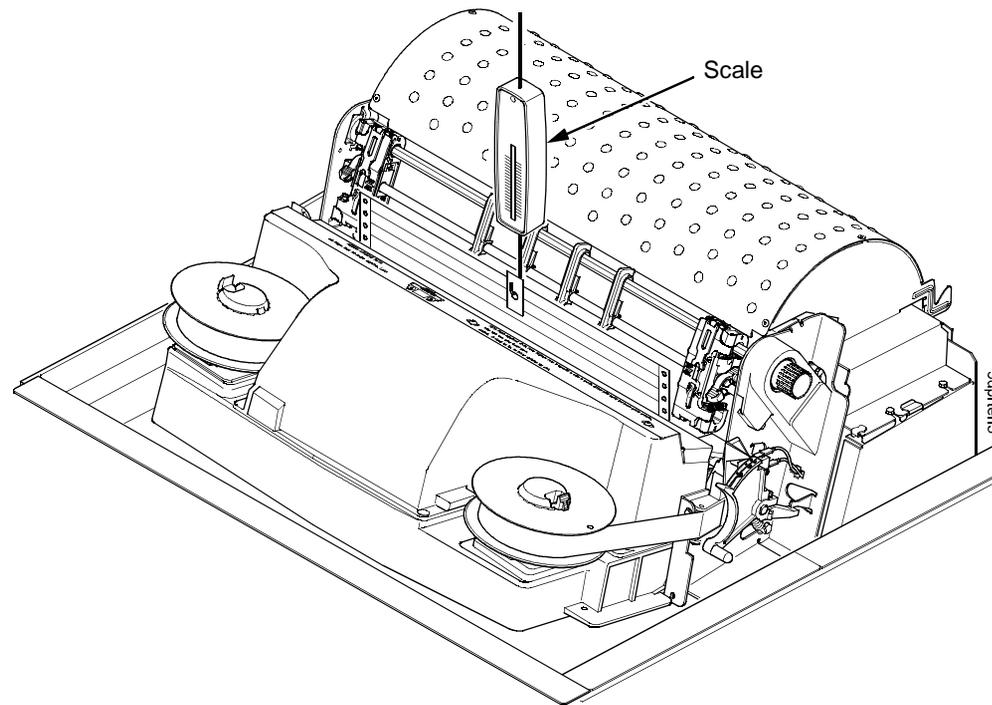

Figure 43. Measuring Paper Tension
7. Attach the hook of a "fish scale" force gauge through the tape you installed in step 5. (See Figure 43.)
8. Pull the paper slowly straight up through the print station for about six inches and note the maximum force exerted on the scale. Do not pull any page perforations through the print station. (See Figure 43.)